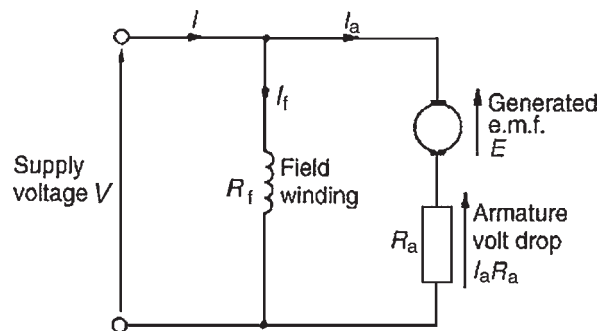

Figure 22.16
In the shunt-wound motor the field winding is in parallel with the armature across the supply as shown in Fig. 22.16.
For the circuit shown in Fig. 22.16,
(ii) The armature circuit of a d.c. motor has resistance due to the armature winding and brushes, R_a ohms, and when armature current I_a is flowing through it, there is a voltage drop of $I_a R_a$ volts. In Fig. 22.16 the armature resistance is shown as a separate resistor in the armature circuit to help understanding. Also, even though the machine is a motor, because conductors are rotating in a magnetic field, a voltage, $E \propto \Phi \omega$, is generated by the armature conductors. From equation (5), $V = E + I_a R_a$ or $E = V - I_a R_a$. However, from Section 22.5, $E \propto \Phi n$, hence $n \propto E / \Phi$ i.e.